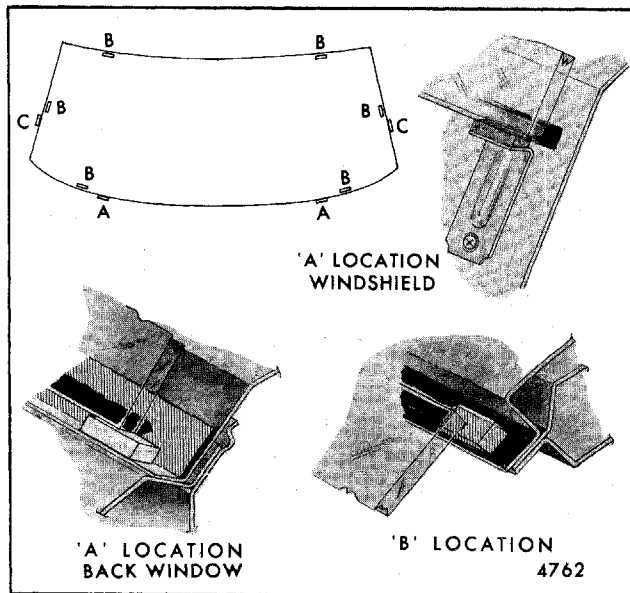

Fig. 11-9-Glass Spacer Installation
2. Locate lower support spacers No. 7694478 or equivalent as indicated in Figure 11-9 ("A" location) and position glass in the window opening. If new glass is being installed, check relationship of glass to adhesive material on pinchweld flange. Gaps in excess of 3 mm (1/8")
3. Using black weatherstrip adhesive or adhesive material, cement flat rubber spacers no. 4459429 or equivalent to window opening pinchweld flanges. As shown in Figure 11-9, location "B", spacers should be positioned to provide equal support around entire perimeter of glass.
4. Figure 11-9, location "A", illustrates rectangular spacers positioned in typical back window installation. Reinstall metal supports at lower edge of windshield glass (in lieu of two lower "A" spacers indicated in back window installation).
- a. Part no. 4459429 or equivalent, stand off spacers for maintaining glass 5 mm (3/16") from body opening - see location "B", Figure 11-9.
- b. Part no. 1651601 or equivalent, lower and side support spacers - see locations "A" and "C", Figure 11-9.
- c. Part no. 1651608 or equivalent, lower and side support spacers - see locations "A" and "C", Figure 11-9.
- d. Part no. 4459429 or equivalent, lower and side support spacers - see locations "A" and "C", Figure 11-9.